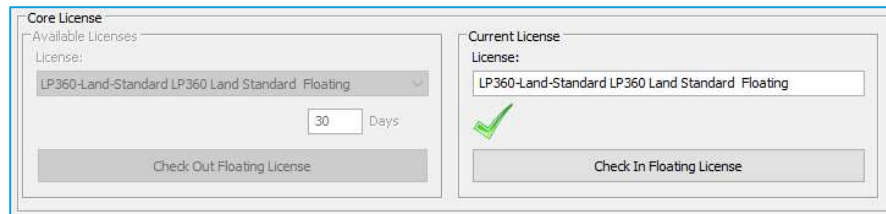

Figure 1 - License Manager
6. The *Current License* portion of the dialog should now show the license type with a green checkmark (Figure 1) indicating that the license has been activated.
5. The *Current License* portion of the dialog should now show the license type with a green checkmark (Figure 1) indicating that the license has been activated.